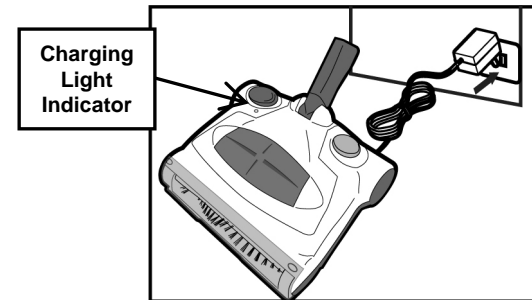

Fig. 2
1. Connect the charger plug to the charging jack or hole on the backside of the sweeper. Plug the charging adaptor into the wall outlet. (120V., 60Hz.) Use only **K-TEC Charger KA12D075015023U**. (Fig. 2)